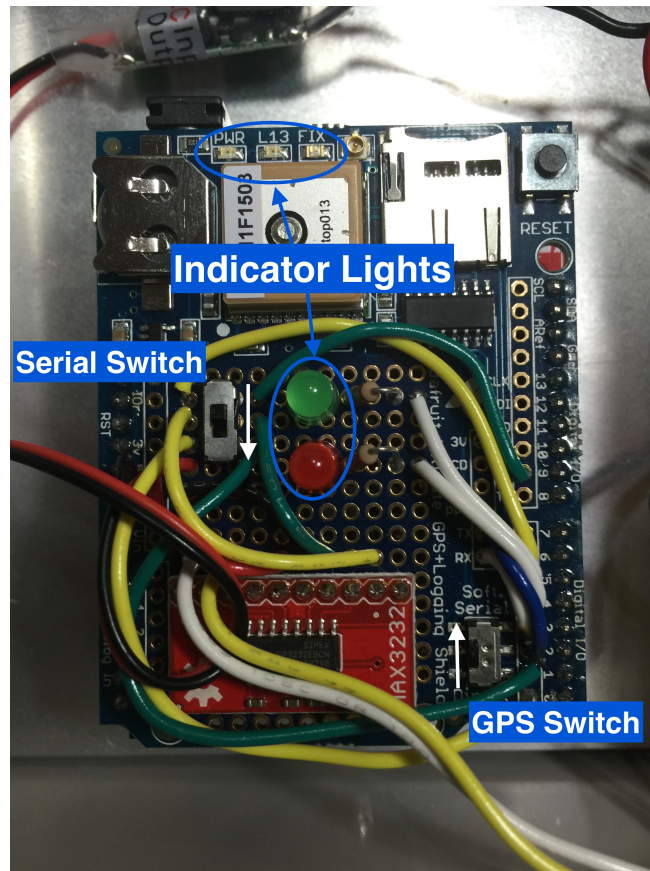

Figure 2: Essential controls and indicators in the logger box.
12. Ensure that the GPS and tilt serial switches are in the positions shown in figure 2.